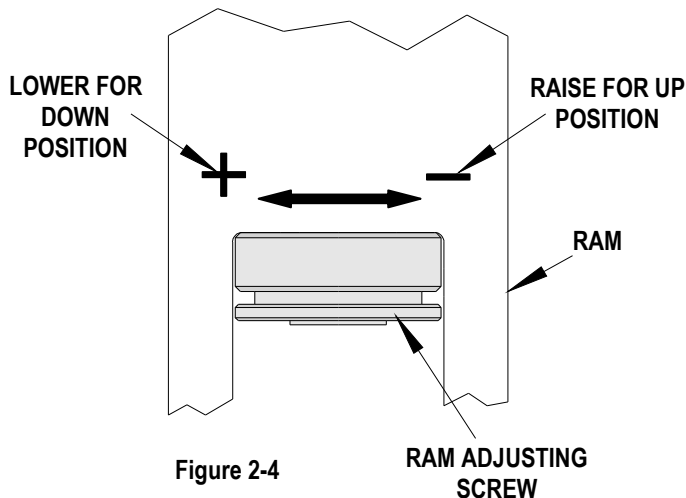

Figure 2-4
- There is an indicator engraved on the ram just above the Ram Adjusting Screw. Turn the Ram Adjusting Screw clockwise (CW) toward the "+" sign to increase the ram stroke. To decrease the stroke, turn the Ram Adjusting Screw counterclockwise (CCW) toward the "-" sign. Stroke adjustment controls the shut height of the connector assembly. See Figure 2-4.